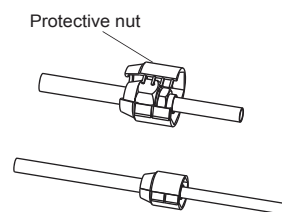

Fig.5-5
- The protective nut is a one-time part, it can not be reused. In case it is removed, it should be replaced with a new one.(Refer to Fig.5-5)